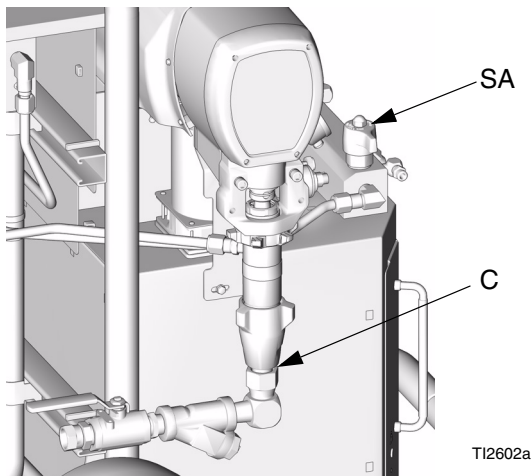

FIG. 1
See FIG. 1. Flush component A (ISO) side from pump A inlet (C) to PRESSURE RELIEF/SPRAY valve (SA) on Reactor fluid manifold. See Reactor operation manual for details.